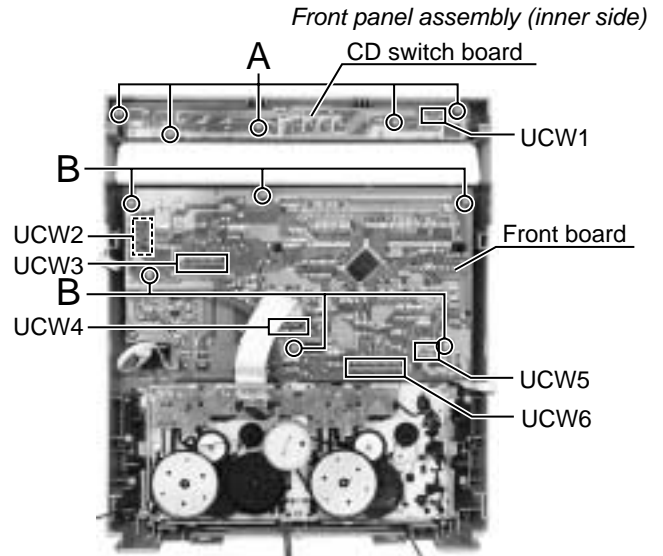

Fig.1
■ Removing the CD switch board (See Fig.1)
■ Removing the front board (See Fig.1)